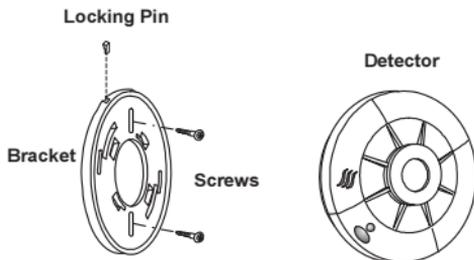

Figure 7: Smoke Detector Installation
Read the “Where To Install Your Smoke Detector” and “Where Not To Install Your Smoke Detectors” sections in this Manual before installing. To install the detector, perform the following steps (see *Figure 7*).
- ◆ Remove locking pin securing the mounting bracket to the unit (see Figure 7).
- ◆ Using screws (supplied) attach the bracket to the wall as in Figure 7.
- Insert the locking pin in order to secure the mounting bracket to the detector (see figure 7).